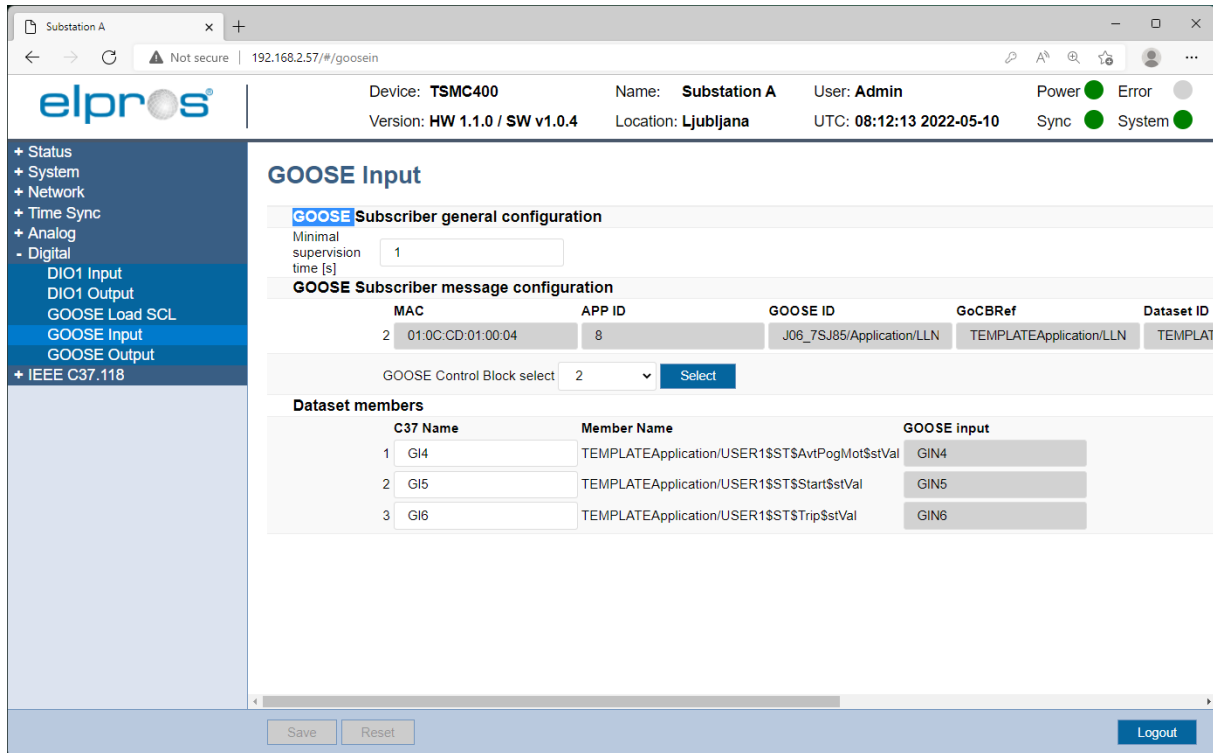

Figure 37: Dataset member configuration
3. Mapped dataset members are displayed. Customize “C37 Name” fields if needed. These names are used as bit names in IEEE C37.118.2 frames, see Figure 37. The same names with prefix “V” are used in the third word to indicate valid status, see section 3.7.3.